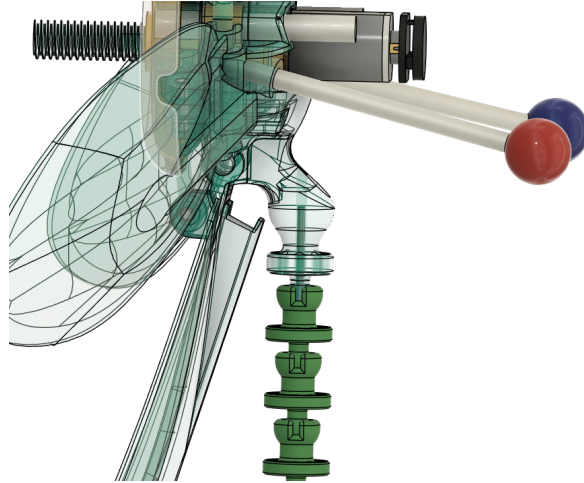

Figure 12: Connecting the Flower Head to the Stem
2. To connect the Flower Head to the Stem, press the top ball and socket into the receiving end of the Stem into the ball of the flower head. Ensure that the backbone enters the flower head and is almost fully extended through the head. See figure 12.